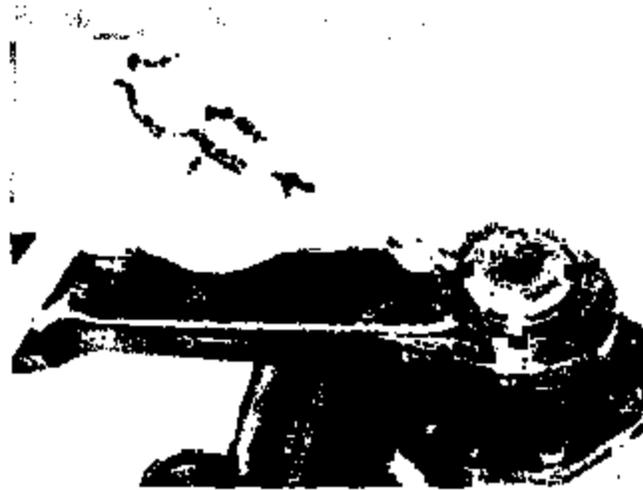

Figure 15
10. Use a tapered punch and hammer to lock the restraining tabs into the retainer (Figure 15).